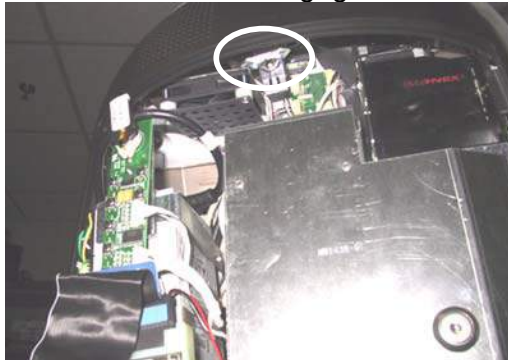
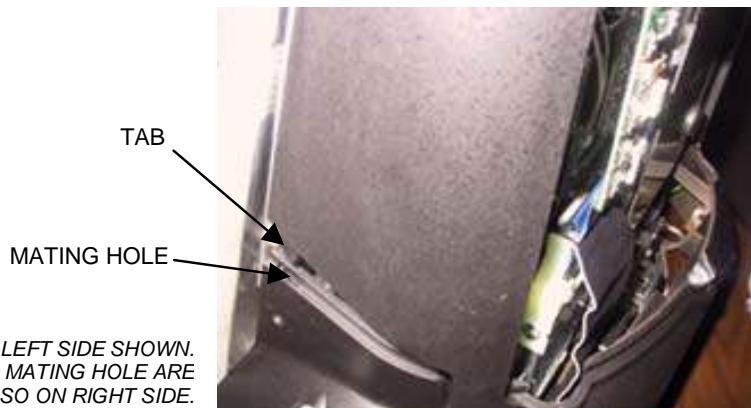

FIGURE 1 - ROTARY DRAW LATCH INSIDE TOP COVER
FIGURE 10 - SIDE VIEW OF GAME
3. Reach under the center of the top of the cover to locate the rotary draw latch (see Figure 1). Turn the wing on the latch counterclockwise to disengage.
11. Reconnect the ground wire to the rear cover and lower the cover into place, carefully lining up the 2 tabs on the cover with the 2 mating holes on the sides of the game (see Figure 10). Make sure that the plastic lip on the bottom of the rear cover is behind the metal base. Tighten the screw securing the bottom of the door. (Figure 2). Turn the wing on the draw latch clockwise to engage the latch (see Figure 1).